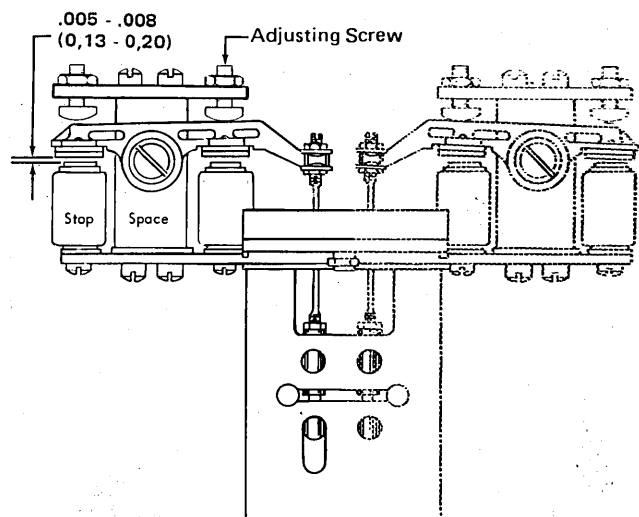

Figure 4-64. Space-Stop Magnet Energized
5. With the space-stop magnet energized, adjust the backstop screw nearest the operating rod for .005 to .008 in. (0,13 to 0,20 mm) clearance (preferably .005 in. (0,13 mm)) between the armature and the stop-magnet cores (Figure 4-64).